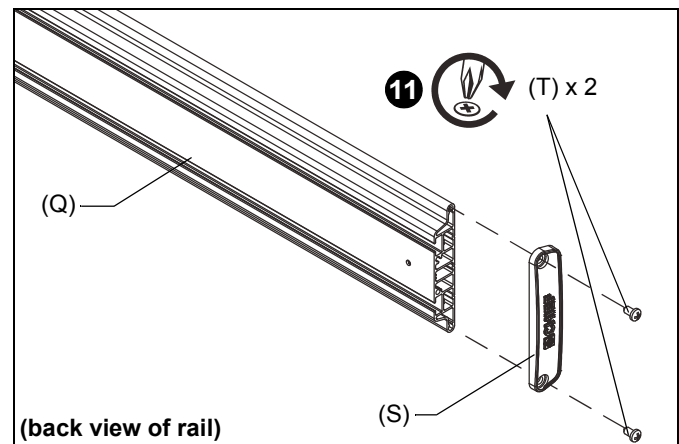

Figure 17
- Attach one remaining end cap (S) with two 1/4-20 x 1/2" Phillips head screws (T) to end of mounting rail (Q). (See Figure 17)